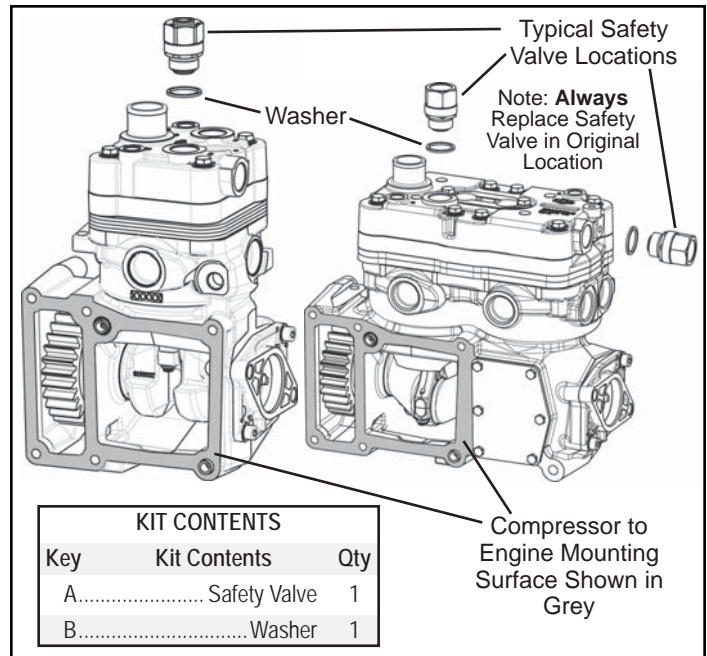

FIGURE 1 – COMPRESSOR EXPLODED VIEWS
Place a clean shop rag over the openings that expose the gear and crankshaft/connecting rod assembly (refer to Figure 1). No contamination is permitted in these areas.
Prior to disassembly make certain that the appropriate kits are available. Refer to Figure 1 during the entire disassembly and assembly procedure.
Follow the instructions contained in the vehicle maintenance manual in lieu of the instructions and procedures presented in this manual. Carefully remove all sealant gasket material adhering to the machined face of the crankcase. See Figure 1. Make certain not to scratch or mar the mounting surface. Note: Keep the crankcase opening covered to prevent any of the sealant material removed during this step from entering the crankcase. Repeat this process on the engine mounting face as well.
1. Apply a liquid gasket sealant to the compressor / engine mounting interface (Refer to Figure 1 for compressor mounting face). Follow the "Engine or Vehicle Manufacturers guidelines for the proper liquid gasket sealant material and application procedure.